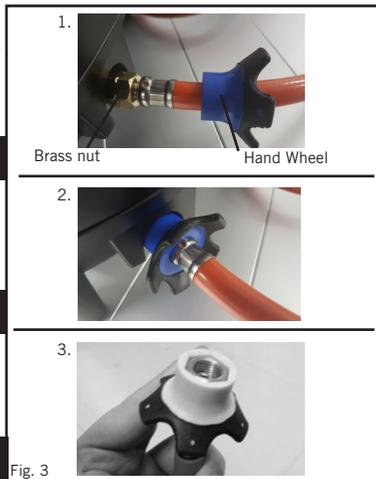

Fig. 3
- Connect the other end of the hose securely to the appliance you wish to operate, using the hand wheel to tighten (Fig. 3).